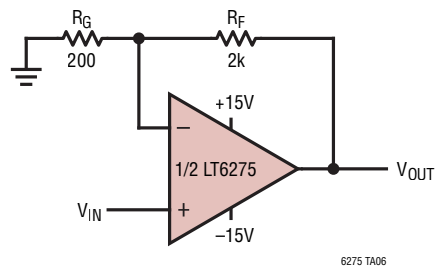

Figure 1. LT6275 Configured in a Noninverting Gain of  $A_V = +11V/V$
Figure 1 shows a noninverting amplifier with closed-loop gain of 11V/V. The closed-loop bandwidth of this amplifier is approximately GBW/11 (GBW = Gain-Bandwidth Product). For a step input, the output follows an exponential curve:
Figure 5 shows the output step response of the composite amplifier (measured at the output of the LT6275) at many different amplitudes. At 15V output excursion, the initial slope is measured to be 725V/ $\mu$ s. This slope is faster than the 390V/ $\mu$ s measured with a 15V output excursion using the simple noninverting amplifier of Figure 1. According to Equation (3), this improvement has been made possible because the effective bandwidth of the composite amplifier is higher (and thus has a lower  $\tau_o$ ), as intended.